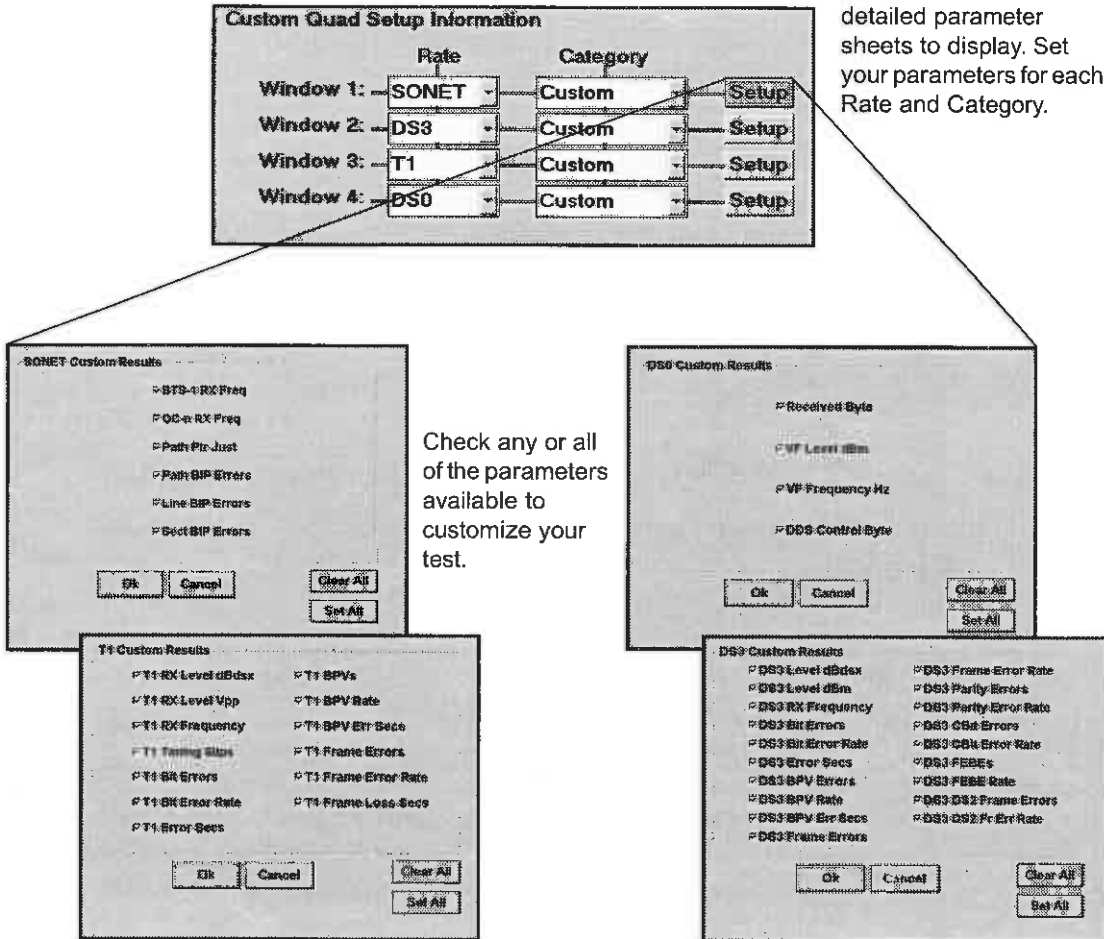

Figure 49 — Custom Results enable/disable property sheets
- 4 Choose the appropriate settings as in the examples shown in Figure 49.